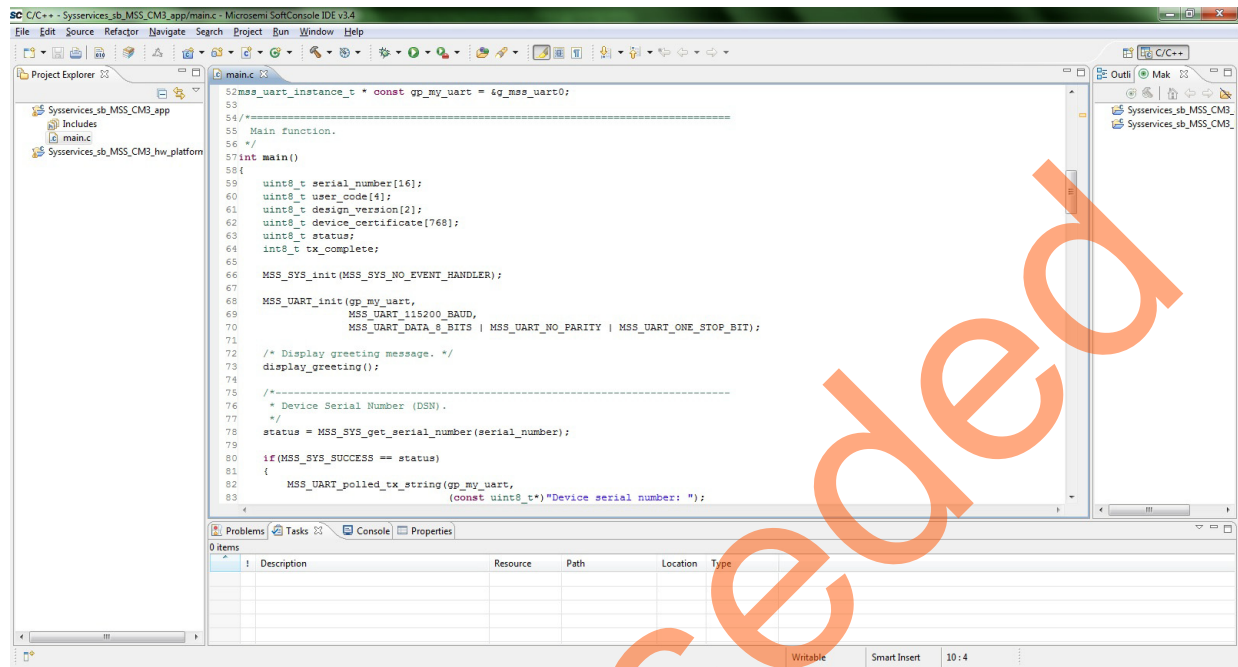

Figure 29 • SoftConsole Workspace - main.c File
8. Copy the `main.c` file and replace it with the existing `main.c` file under **Sysservices_sb_MSS_CM3** project in the SoftConsole workspace. The SoftConsole window is shown in Figure 29.